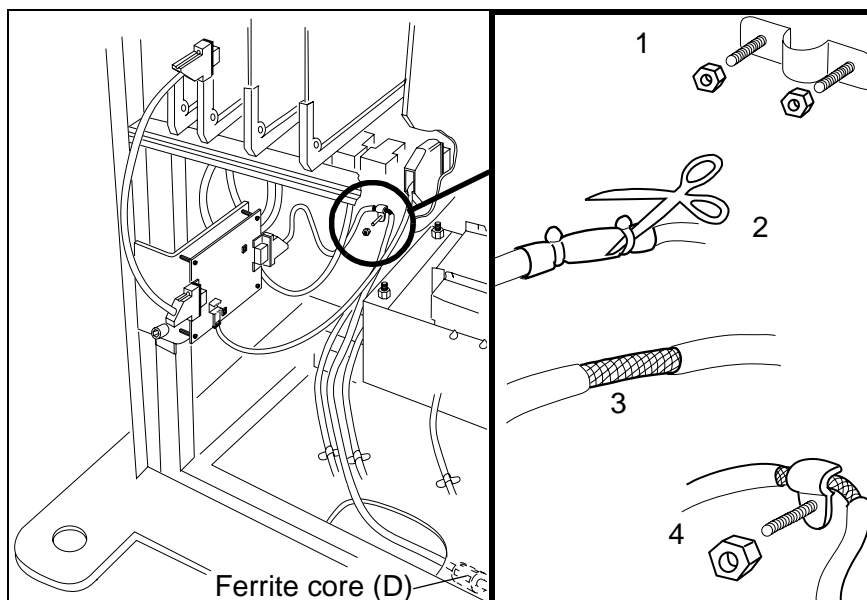

Fig. 5 Shielding cable
2. The MAMMOMAT has a free clamp on the generator rear wall, below the D700 board. The cable should here be shielded as shown in Fig. 5.
- Remove the existing clamp (1)
- Cut and remove the cable ties (2)
- Cut and remove isolation (3)
- Fasten the shield to the wall with the supplied clamp (4)
3. Mount the ferrite core marked D on the printer cable (refer to Fig. 5).